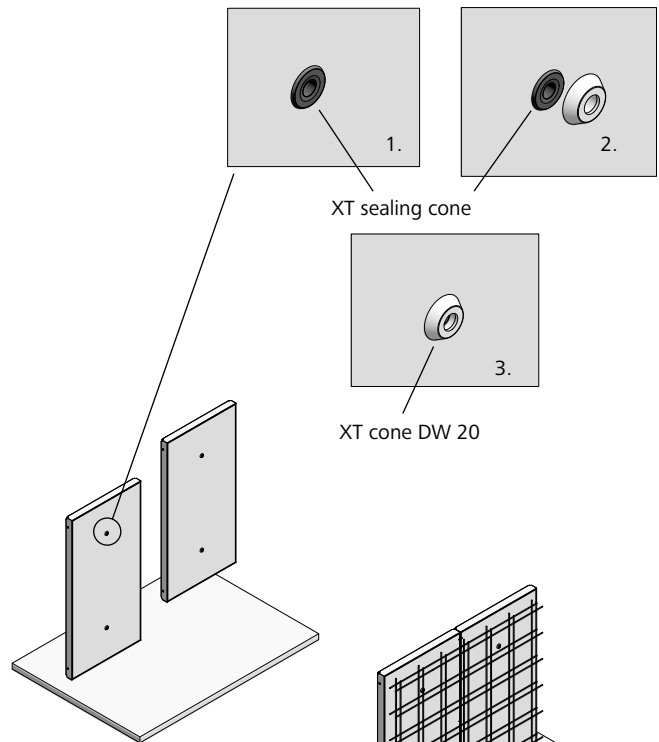
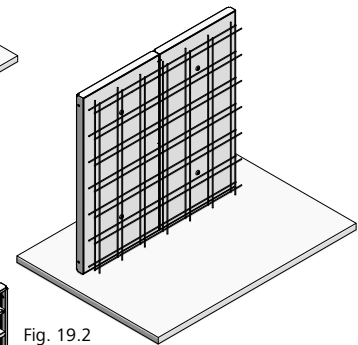

Fig. 19.1
Fig. 19.2
1. Press XT cone DW 20 onto the XT sealing cone on the initial-formwork panel (Fig. 19.1, steps 1. to 3.).
2. Place initial-formwork panel (Fig. 19.1 and ST-XT-5), and carry out boxout work (Fig. 19.2).